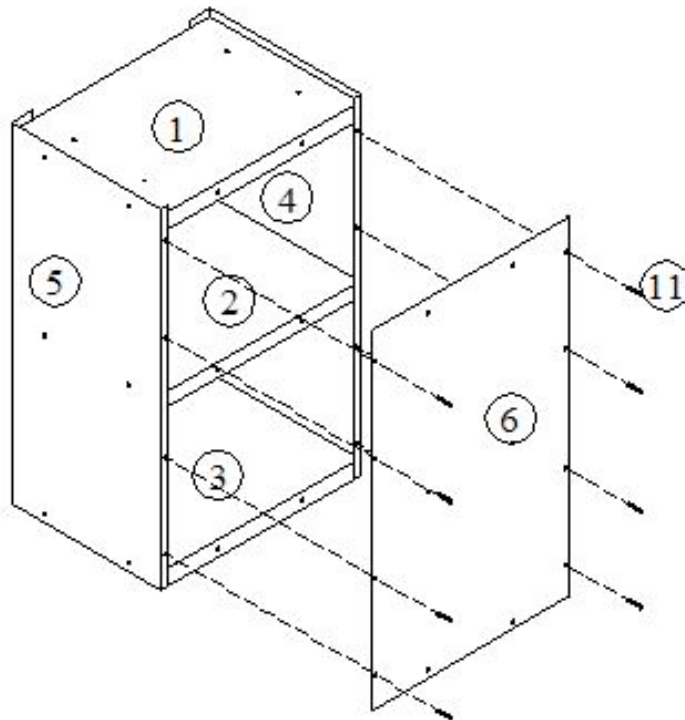

Figure 6
Attach the back panel (6) with 8 sheet metal screws (11) in the outside holes only. As shown in Figure 6.